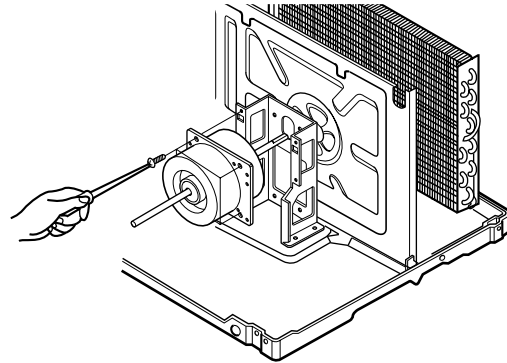

Figure 14
9. Re-install the components by referring to the removal procedure, above.(See Figure 14)